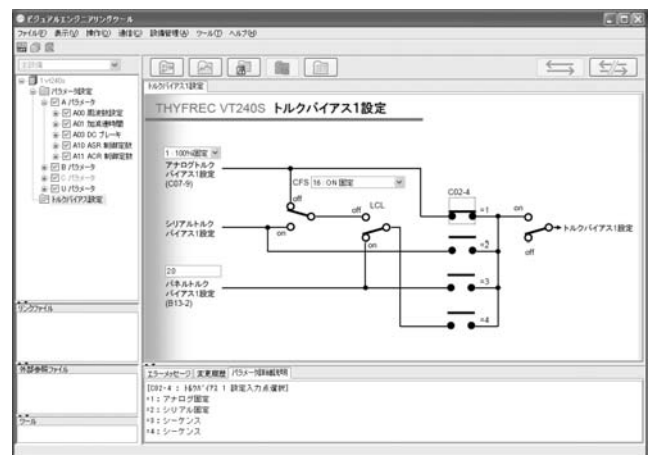
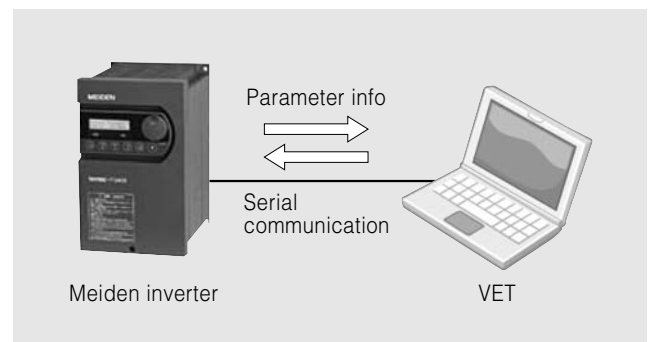

Fig. 1 Example of VET Screen
Fig. 2 System Configuration
Fig. 1 shows an example of VET screen and Fig. 2 shows the system configuration of a Meiden inverter. The data exchange of parameter info, etc. is done through serial communications between the Meiden inverter and a Personal Computer (PC). Using the exchanged info, the VET provides the following functionality for the user.
- (1) Parameter management function
- (2) Monitoring function
- (3) Trace-back display function
- (4) Event-logging and reference function